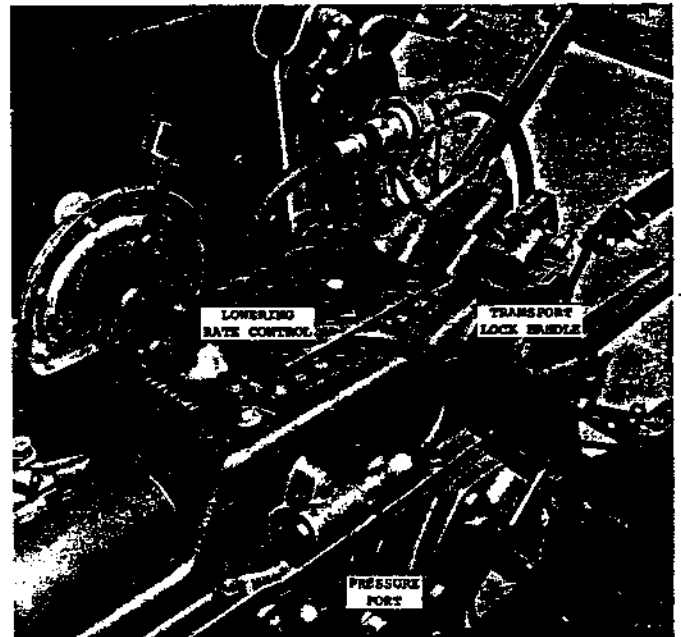

Fig. 8 — Operating One Single-Acting Cylinder with Basic System — MF 130 Tractor
2. Attach hydraulic hose(s) to pressure port(s) on hydraulic lift cover. See (Figs. 8 and 9).